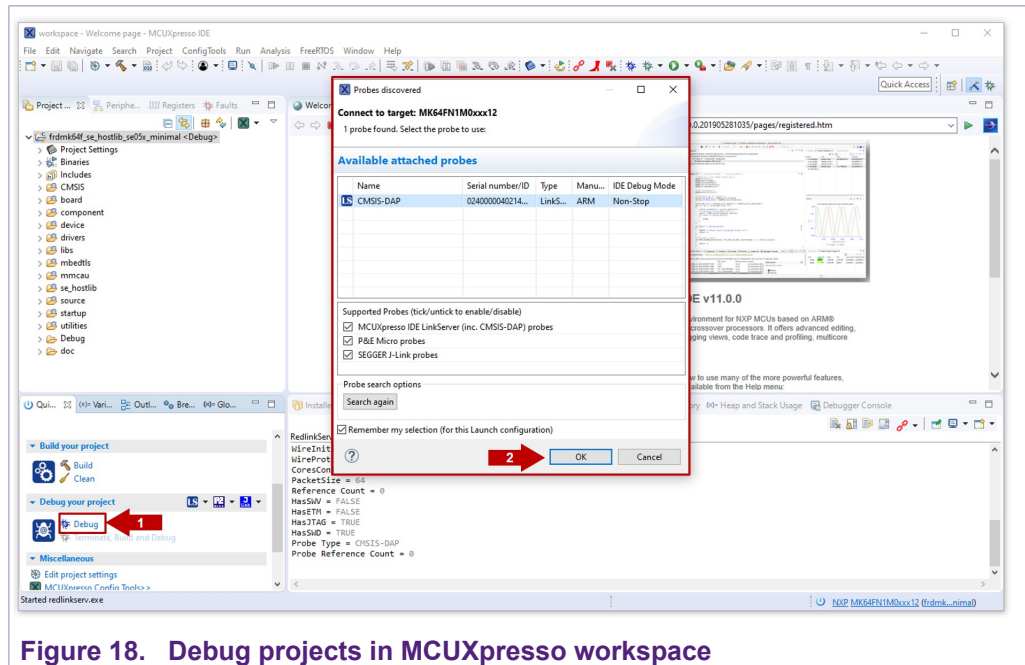

Figure 18. Debug projects in MCUXpresso workspace
- Go to the MCUXpresso Quickstart Panel and click *Debug* button as shown in Figure 18. If there is more than one probe attached, you have to select CMSIS-DAP debug probe from the list. Wait a few seconds until the project executes